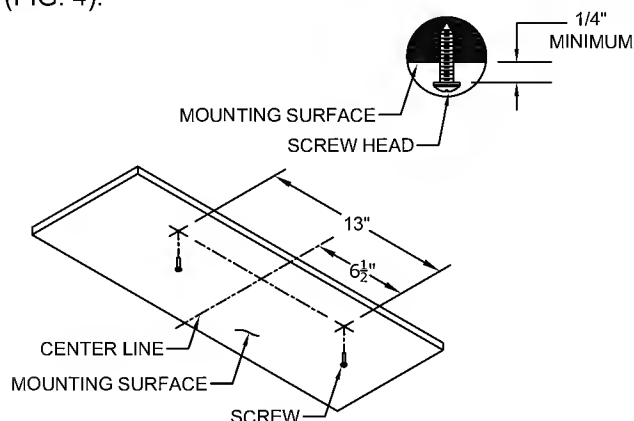

FIG. 1
1. Layout luminaire mounting hole locations as shown (template enclosed). Drive SCREWS provided into MOUNTING SURFACE, if appropriate for MOUNTING SURFACE type. If SCREWS provided are not appropriate use appropriate hardware for MOUNTING SURFACE type (by others). SCREWS provided are #8x1" Cross Recessed Pan Head Sheet Metal Tapping Screw - Type AB - Type IA. Leave 1/4" minimum between bottom of SCREW HEAD and MOUNTING SURFACE (FIG. 1).